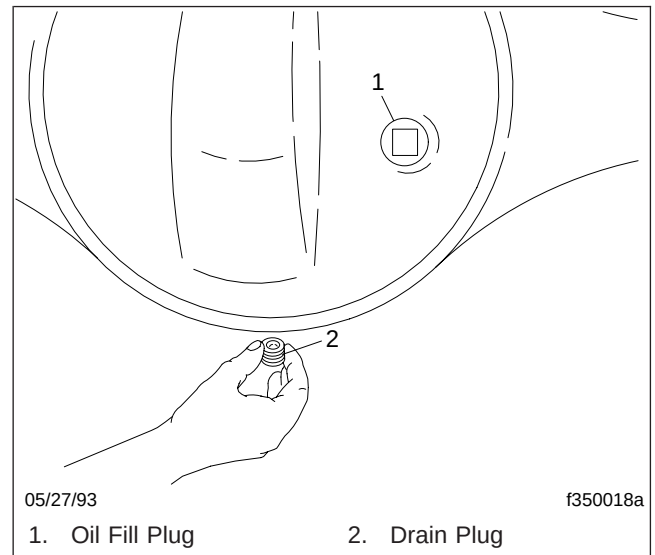

Fig. 1, Axle Housing Drain and Fill Plugs
2. Clean the area around, and including, the fill plug. Remove the plug from the oil fill hole (or standpipe if installed in the oil fill hole) located in the axle housing rear cover. See **Fig. 1**.
3. Place a drain pan under the rear axle drain plug. Remove the drain plug at the bottom of the axle housing and allow sufficient time for all old lubricant to run out. See **Fig. 1**.